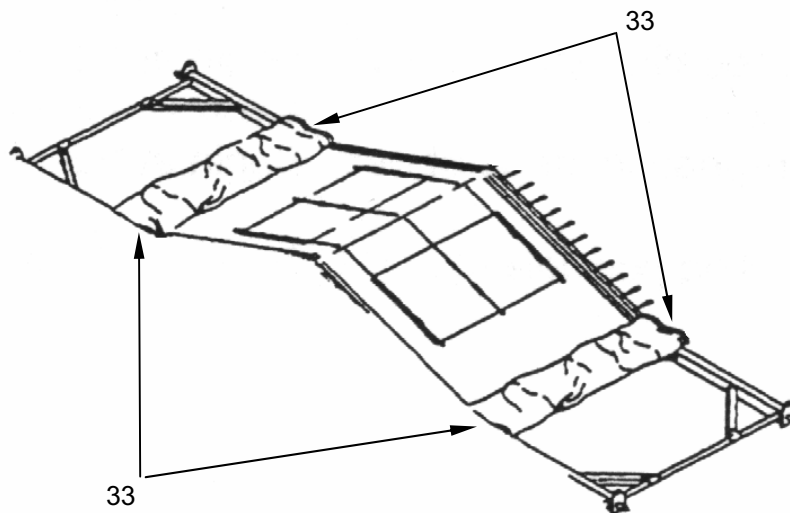

Figure 15. Unroll Tent Fabric.
5. Unroll tent fabric until fabric reaches eave spindles (**Figure 15, Item 33**). Place grommets over each of the four eave spindles.